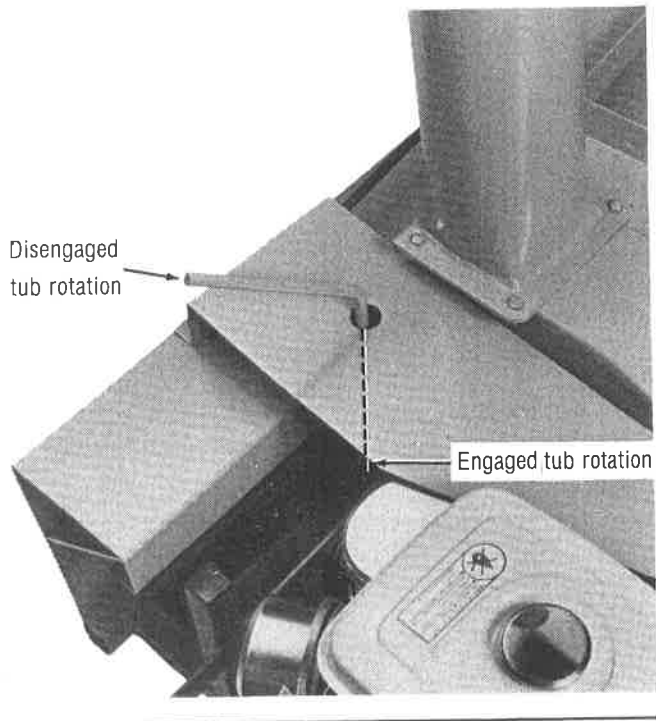

Figure 6 Tub Rotation Lever
Figure 6 shows the location of the lever which engages the tub assembly.
1. Make sure the tub rotation lever is in the disengaged position. See Figure 6.